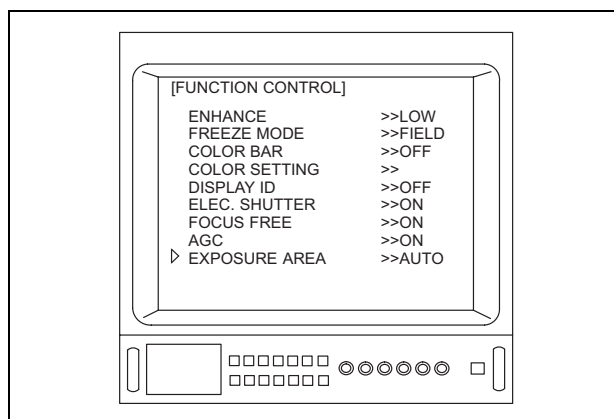

Figure 5.34
4. Depress the menu switches "◀" or "▶", or the "↑/↓/←/→" key on the keyboard to move the arrow "▷" to "EXPOSURE AREA" (see Figure 5.34).
- When the OTV-S7V is connected to the ENF-V, CYF-V/VA or HYF-V, “ELEC.SHUTTER” and “EXPOSURE AREA” shown in Figures 5.34 and/or 5.35 are not displayed.
- When the OTV-S7V is connected to the LTF-V3 or A500**A series, “EXPOSURE AREA” shown in Figures 5.34 and/or 5.35 is not displayed.
- When the OTV-S7V is connected to a camera head without the focus free function, or to a videoscope, “FOCUS FREE” shown in Figures 5.34 and/or 5.35 is not displayed.
- Depending upon the OTV-S7V’s settings, the menus shown in Figures 5.34 and/or 5.35 may appear different from those displayed on the video monitor.